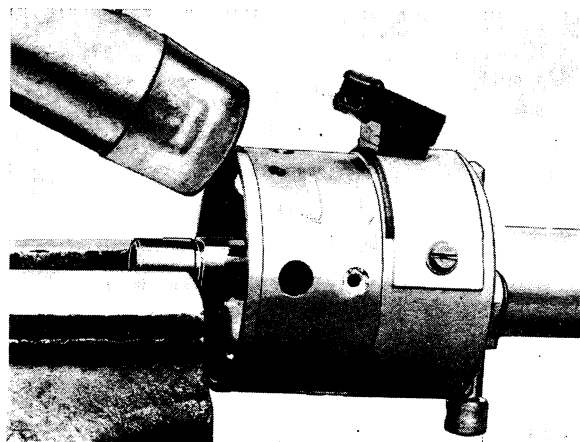

Fig. 3-75. Removing circlip
4. Disconnect the springs for the centrifugal governor and mark up how the breaker cam is located in relation to the distributor shaft. Secure the breaker cam in a vise with soft jaws. Carefully knock on the distributor housing with a plastic mallet (Fig. 3-75) until the snap ring (7, Fig. 3-72) has released and lift off the breaker cam.